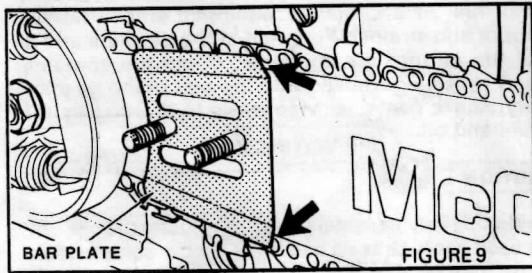

FIGURE 9
8. Install the bar protector plate over the bar bolts with the flange away from the bar. (Figure 9).